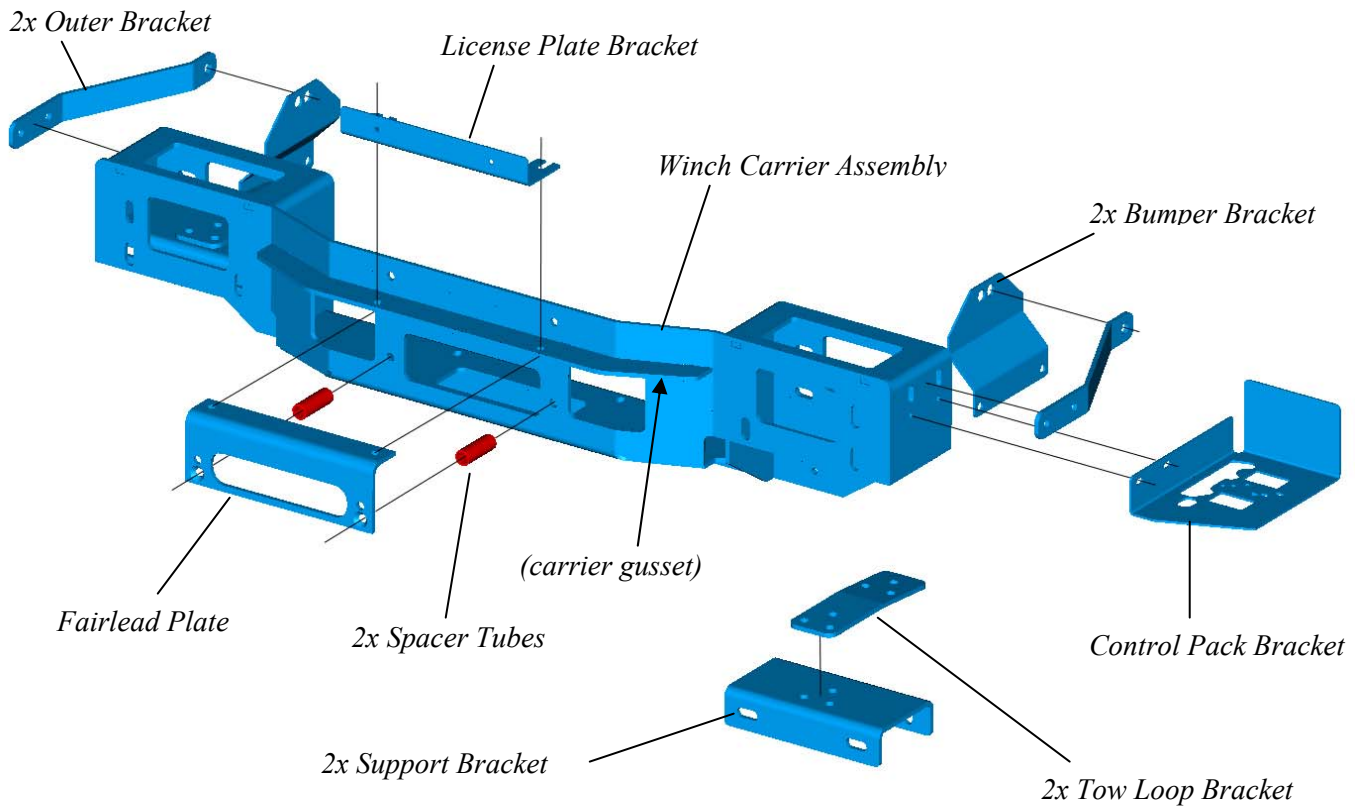

Figure 1 Winch Carrier Assembly and Brackets exploded
1. Attach the Control Pack Bracket on the left end of the Winch Carrier Assembly. **Figure 1.** Use two(2) 1/4-20 x 1 bolts, flat washers, lock washers and nuts.